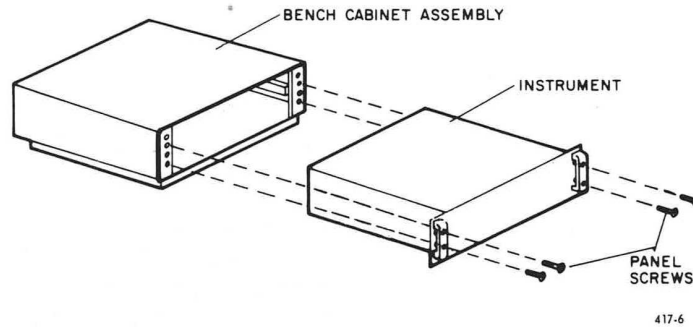

Figure 2-3. Removing the Bench Model from its Cabinet.
- Remove the four screws (P/N 7270-6310, No. 10-32, 9/16 in. with nylon washer) from the front panel (Figure 2-3).